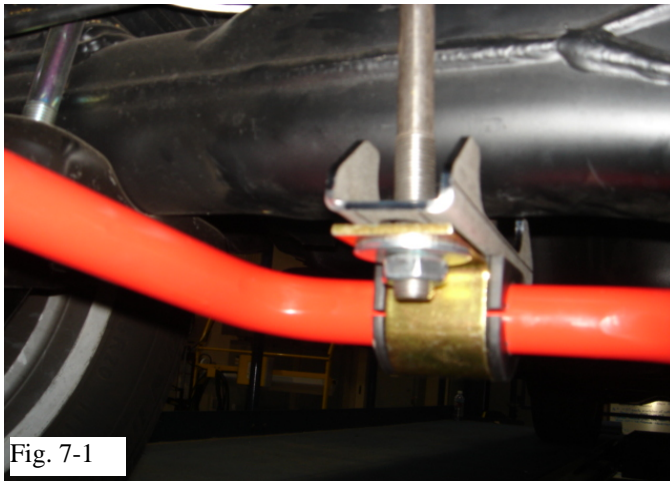

Fig. 7-1
- (a) Starting on either side, place the saddle brackets onto the U-Bolts, and slide the bushing brackets underneath. Secure the bushing brackets using the U-Bolt washers & nuts. (Fig 7-1)